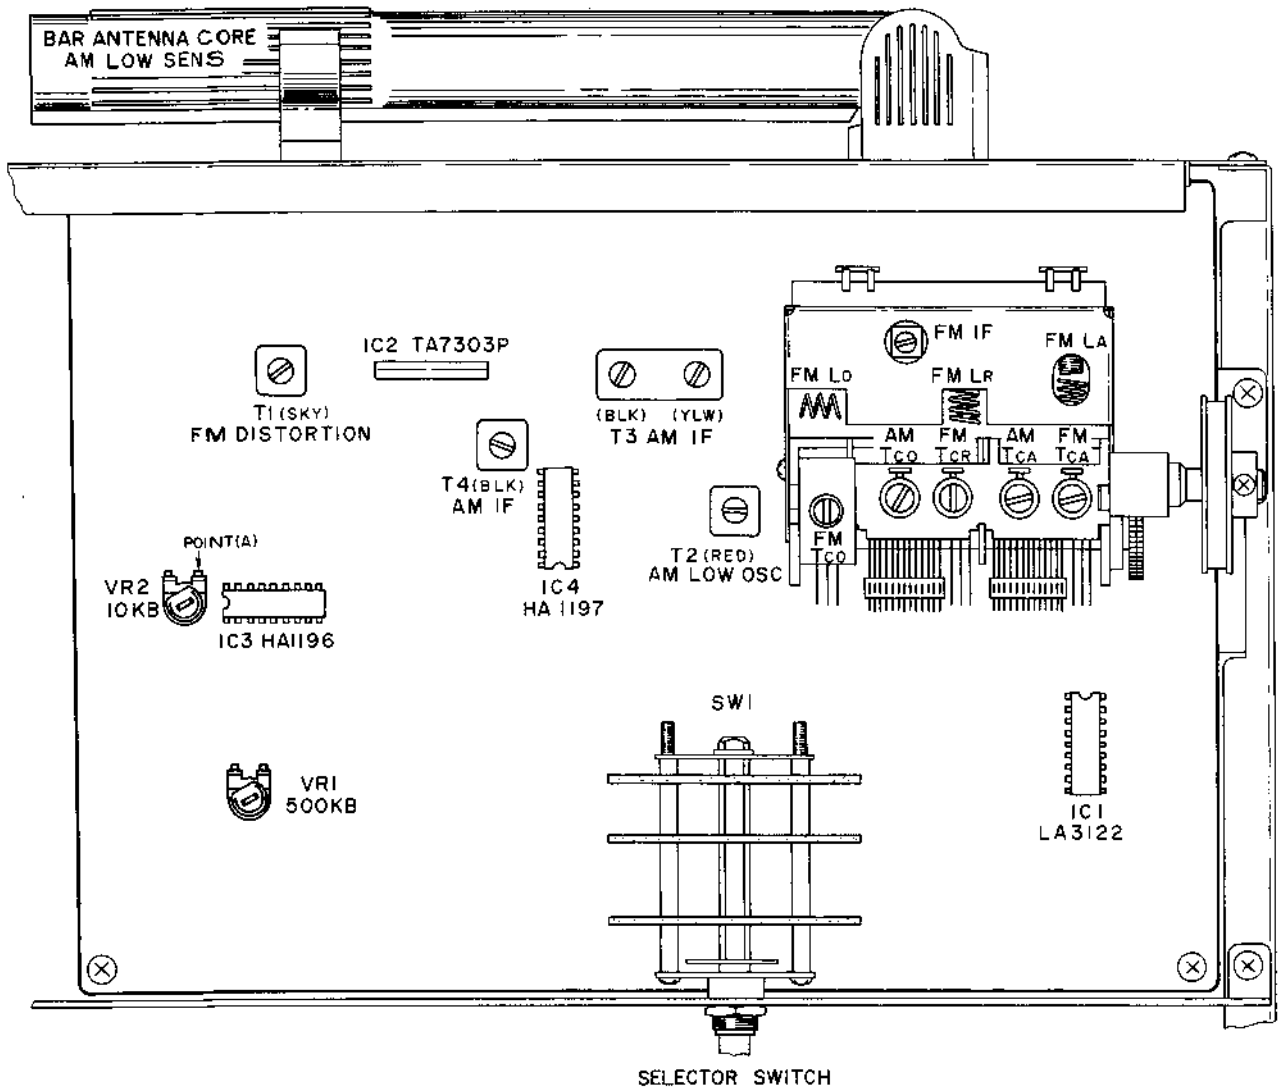

Fig. 14 Tuner Adjustment
1) FM SECTION ADJUSTMENT (Refer to Fig. 14)